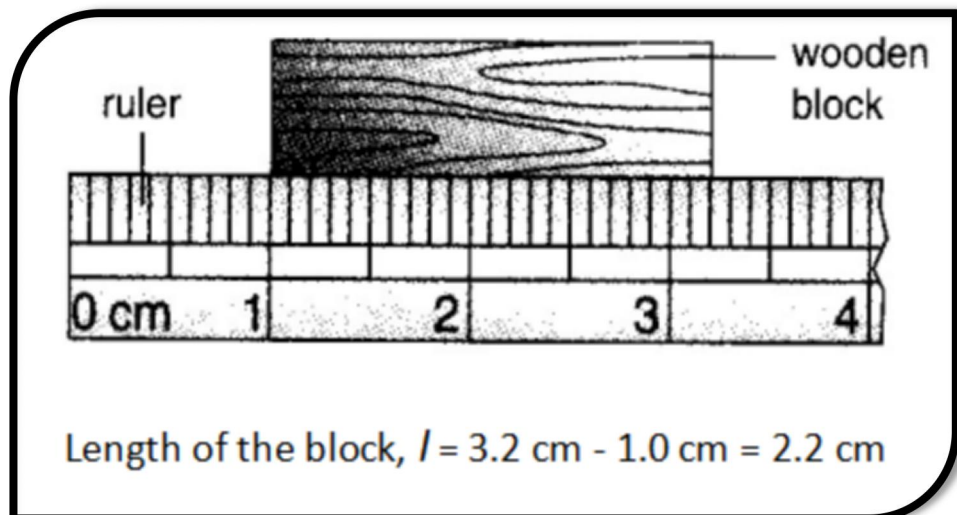

Figure 1.10 Use the division mark '1' of the scale as the zero point when taking a measurement
3. Avoid zero and end errors. The ends of a ruler, which may be worn out, are a source of errors in measurement. Thus, it is advisable to use the division mark ‘1’ of the scale as the zero point when taking a measurement as illustrated in **Figure 1.10**. The length of the object is obtained by subtracting higher reading from lower reading.